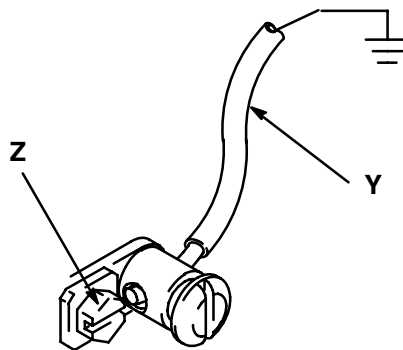

Fig. 1
- *Pump:* Use ground wire and clamp as shown in Fig. 1.
**To ground the pump,** remove ground screw (Z) and insert through the eye of the ring terminal at end of ground wire (Y). Fasten ground screw back onto pump and tighten securely. Connect other end of ground wire to a true earth ground. See Fig. 1. To order a ground wire and clamp, order Part No. 222011.